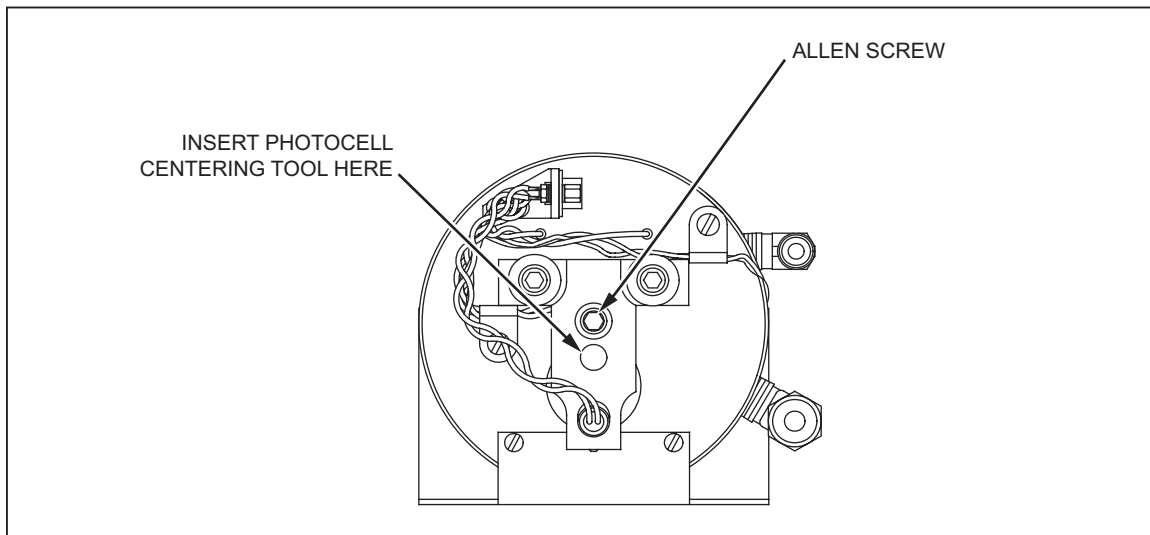

Figure 6-9. Photocell Location
8. Referring to Figure 6-9, slightly loosen the Allen screw on the back of the sensor bracket, making sure to maintain a snug fit on the screw. Using the T-shaped Photocell Centering Tool (part number 7250SYS-111), adjust the photocells by placing the tool in the hole in the back of the sensor and turning the tool slightly. The screen will show a number of horizontal lines. The top yellow bar represents the current zero setting. The bottom portion of the bar has a green bar in the center and two red bars on either end. If the top yellow bar is over the red bar, then mechanical zeroing is required. If the yellow bar is over the green bar, then no adjustment is required.